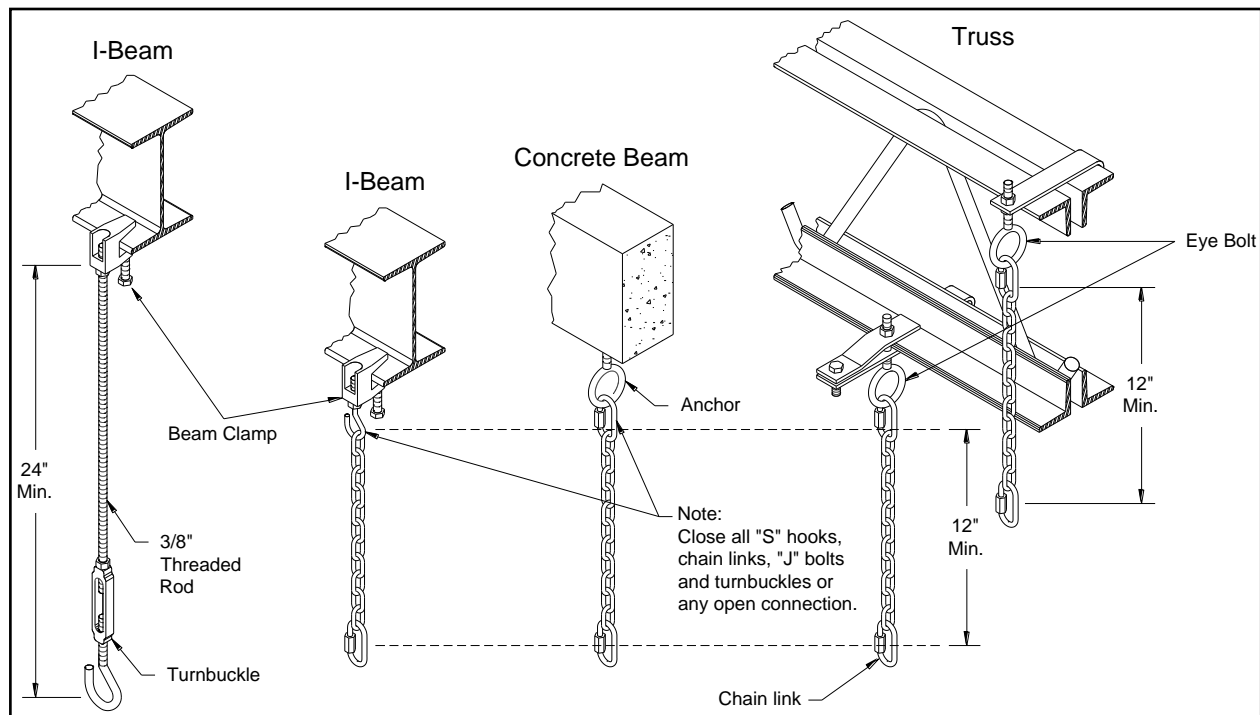
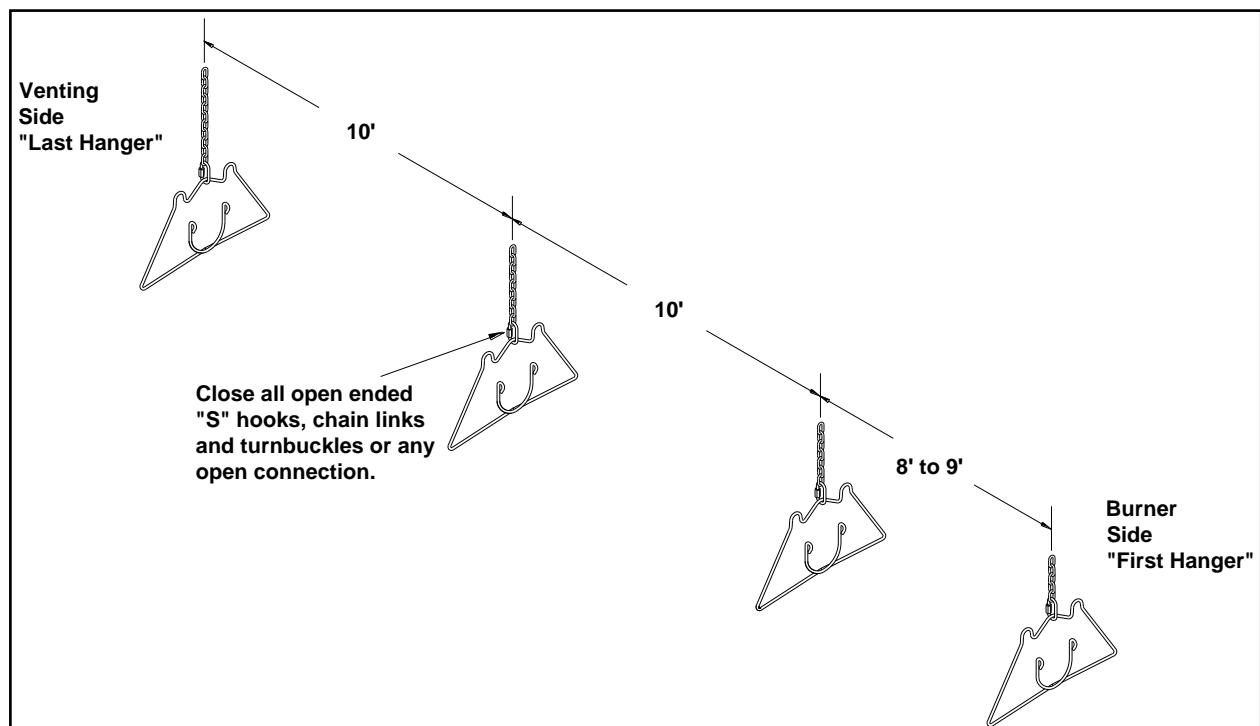

Figure 6: Suspension Mechanism
Figure 7: Hanging Points
- Suspension mechanism must allow for lateral tubing expansion. A minimum 12" length welded link chain with a working load limit of at least 200 lbs. is recommended (refer to Figure 6 for more details). **SRP recommends and make available "quick links" for connecting chain. If any open ended "S" hooks and turnbuckles are used, the open ends must be closed to avoid unhooking chain with inadvertent contact.**
- Locate hanging chain at predetermined suspension points in the structure. **It is required that the first 2 hangers** be about 8' to 9' away. Thereafter, 10' apart on average is acceptable for the remainder of the heat exchanger. At no time should hangers be more than 12' apart, (see Figure 7).
- Install the tube and reflector support hanger on the chain with “S-hooks” refer to Figure 6 & Figure 7.